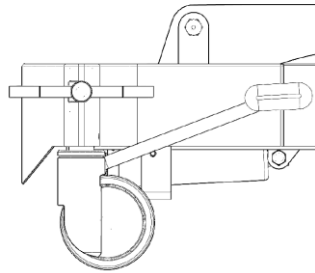

Figure 14
- 1) Make sure that the shower trolley brake pedal is in the central position (see figure 14)